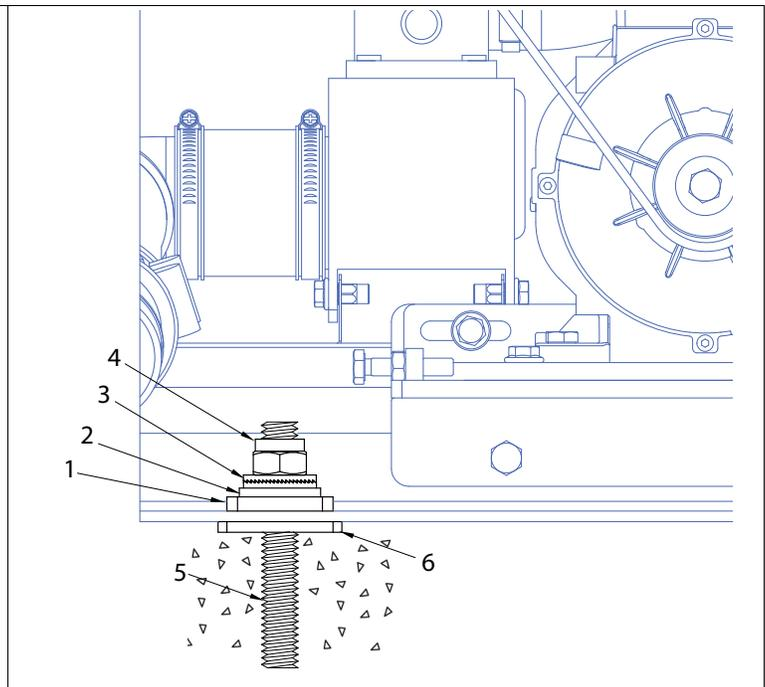

Fig. 5.9 Securing the Machine to Concrete MWR85 Model (Middle Anchor)
2. The bolt hole applies exclusively to the MWR85 model; Refer to Fig. 5.9 "Securing the Machine to Concrete MWR85 Model \(Middle Anchor\)" chapter on page 14 for bolt securing details.